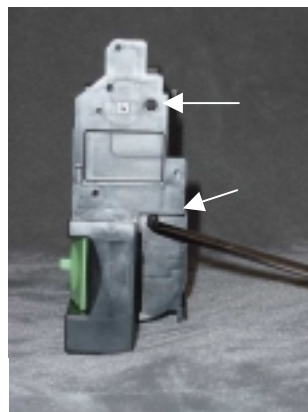

Fig. 3
3. Remove The two screws that secure the end cap to the toner hopper (Fig. 3).